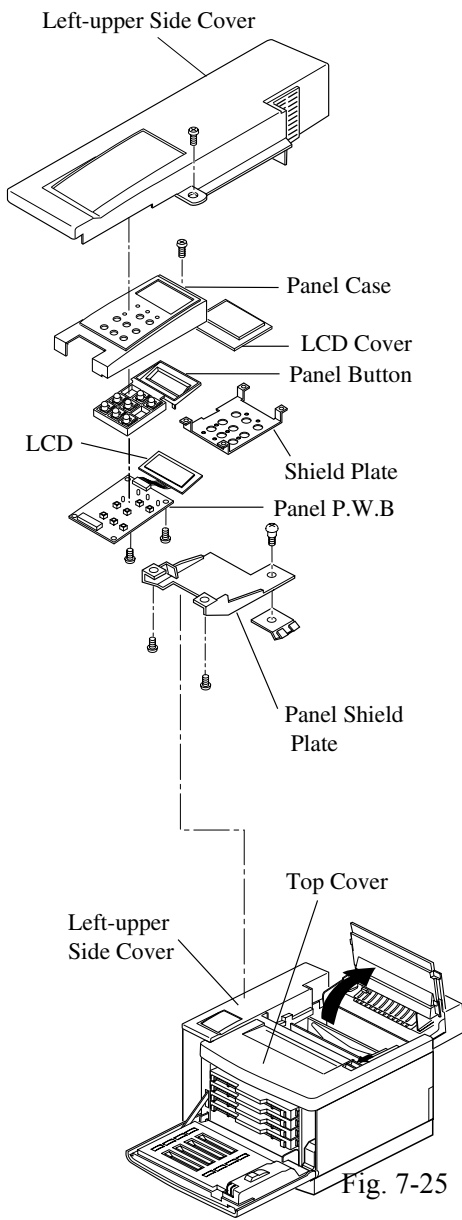

Fig. 7-25
(see Fig. 7-25)
5. Upon removal of the panel P.W.B., and the shield plate, remove the panel button and panel shield as shown in Fig. 7-25.